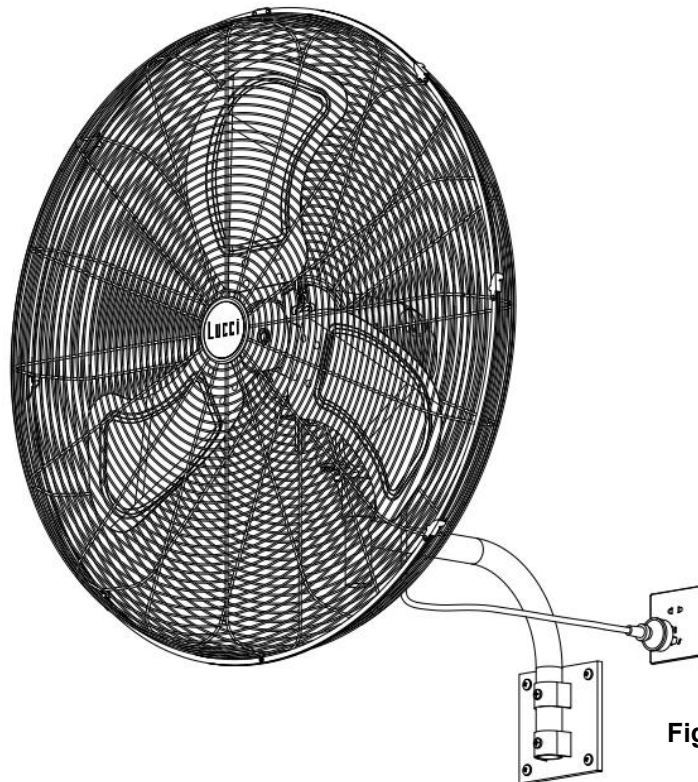

Fig. 11
12. Insert the plug into the mains socket outlet and ensure it is fully plugged in. (Fig.11)